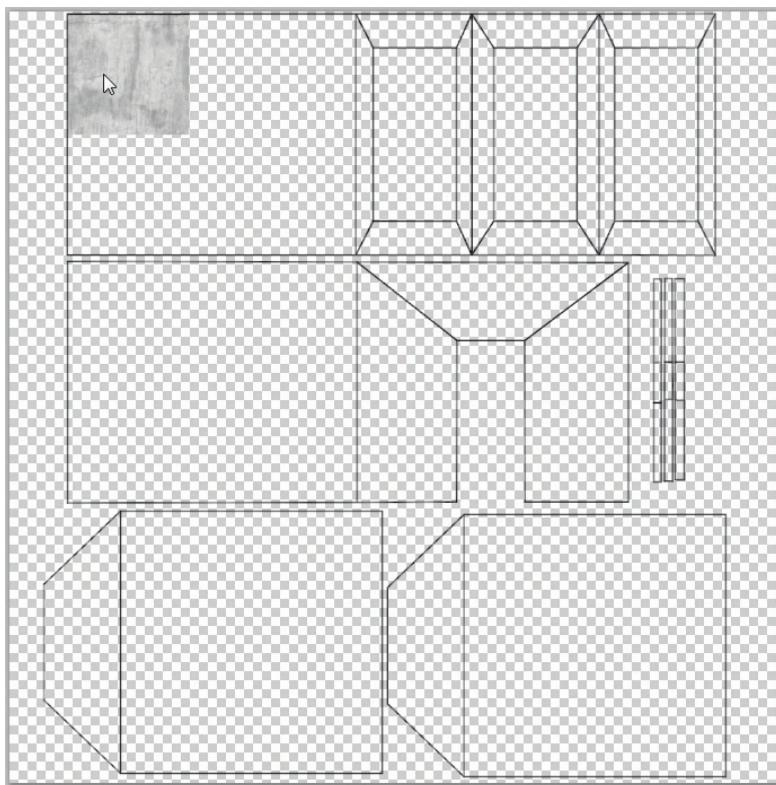

FIG 6.3 Pasted texture laid beneath the UV Snapshot layer.
Step 7: Use the Free Transform tool (Edit > Free Transform) to resize the texture, so that it is an appropriate size on the wall (Fig. 6.3). Again, holding Shift will maintain the proportions of the selection as it is resized.